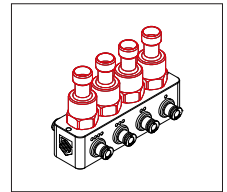

Abb. 3: Drucksensorblock
2. Montage in den optionalen Drucksensorblock (Abb. 3)